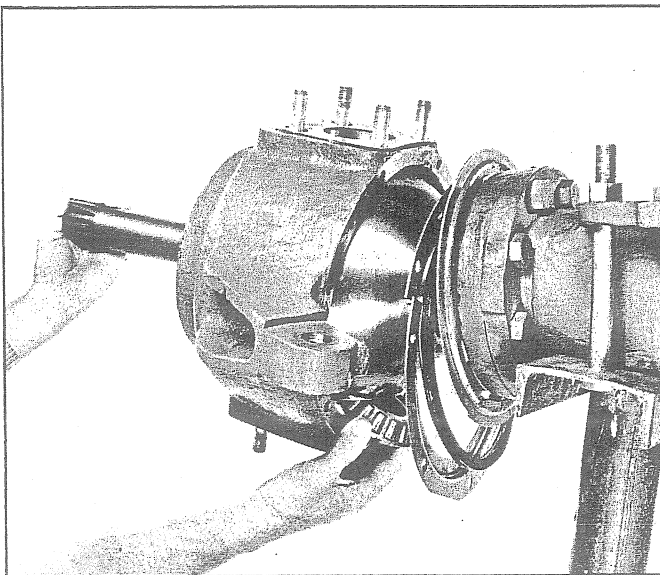

Fig. 25 - Installing Lower Trunnion Bearing
18. Install lower trunnion bearing in place as shown in Fig. 25.